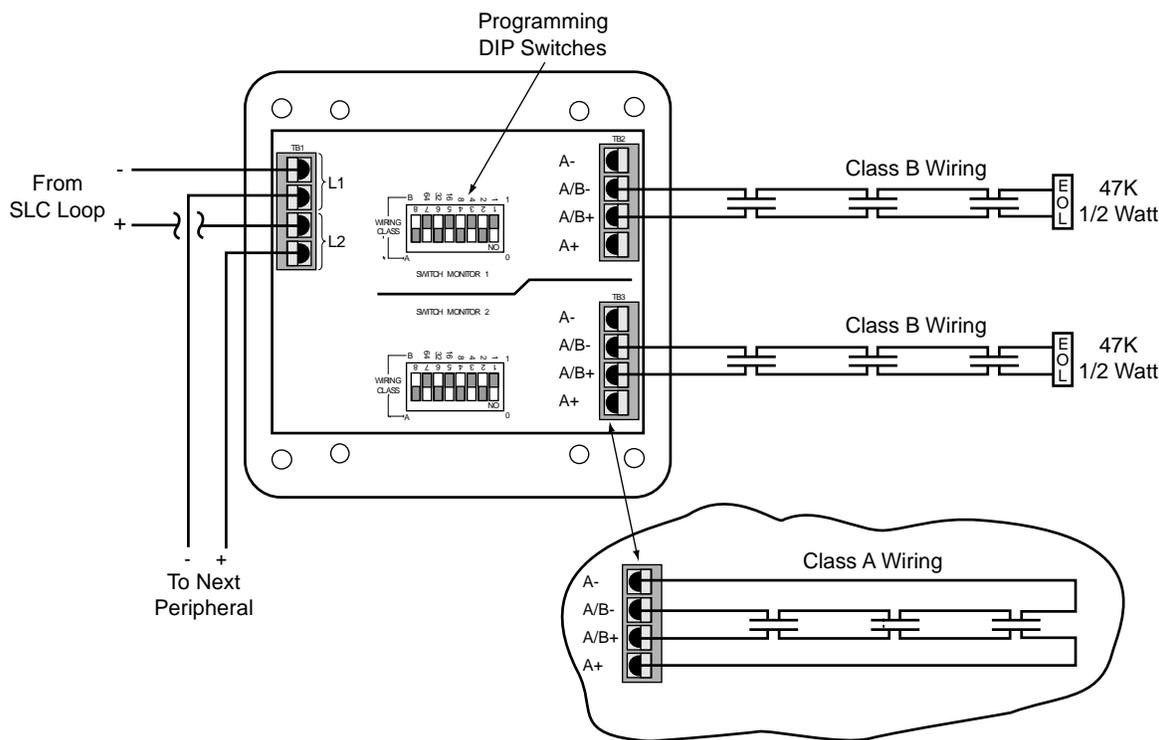

Figure 15 - S-A4042 Wiring
Incorporated with each individual IDC circuit is a built-in priority interrupt feature which allows rapid response capabilities from highly critical contact devices (e.g., manual pull stations, etc.). Two (2) eight position programming DIP switches are provided on each Dual Switch Monitor Module for IDC circuit addressing and wiring classification definition. The S-A4042 mounts to the front of a standard 4" square or 2-gang electrical outlet box. Displayed on the front of each S-A4042 is two (2) red status LEDs which flash when the individual address is polled and illuminate steady when the IDC circuit is active (see figure 15).